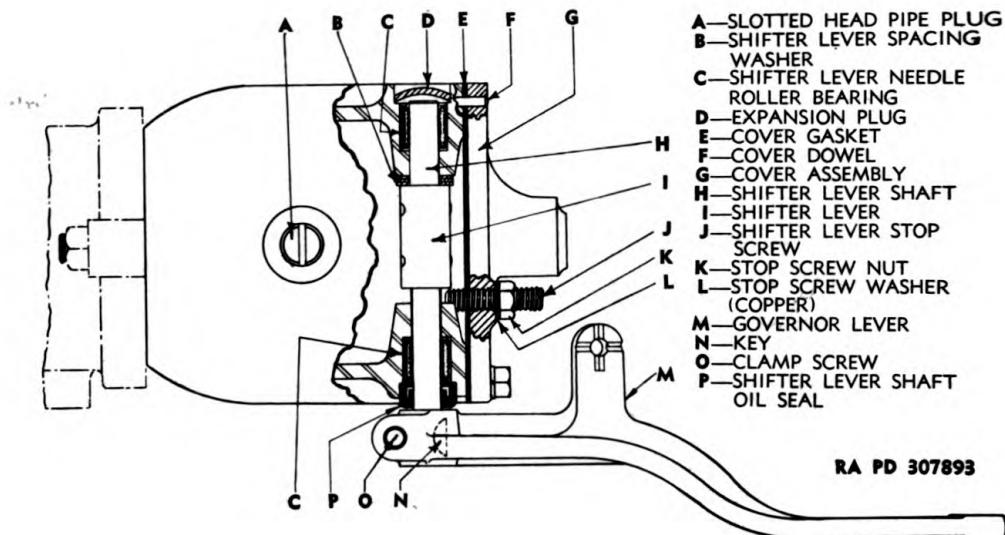

Figure 86 — Governor — Top View Drawing
(1) **INSTALL SHIFTER LEVER AND SHAFT.** If shifter lever shaft needle bearings were removed, install new bearings by starting them into end of housing, then inserting bolt through both bearings and pulling them into place by tightening nut on bolt. **CAUTION:** *Do not drive them into place with hammer or punch.* Tap new oil seal into end of housing against needle bearing (fig. 86) with lip of seal facing it. Tap shifter lever shaft through oil seal and first needle bearing, then hold shifter lever in position shown in figure 84 and drive shaft through lever. Insert three spacing washers (fig. 86) between lever and second bearing boss, then drive shaft through these washers and second needle bearing. Aline the two holes in the shaft with the two holes in lever and install taper pins in these holes (fig. 83). Tap expansion plug into housing opposite oil seal (fig. 86).